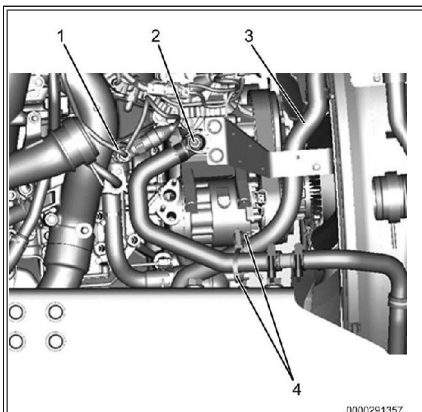

Figure 20: Water Bypass Hose.
1. Rotate 90-degree elbow fitting (Figure 20, Item 2) down until bypass hose clears turbo oil supply tube (Figure 20, Item 1).
2. Using two tie straps (Figure 20, Item 4), and a swivel saddle, secure water bypass hose to deaeration tank hose (Figure 20, Item 3).